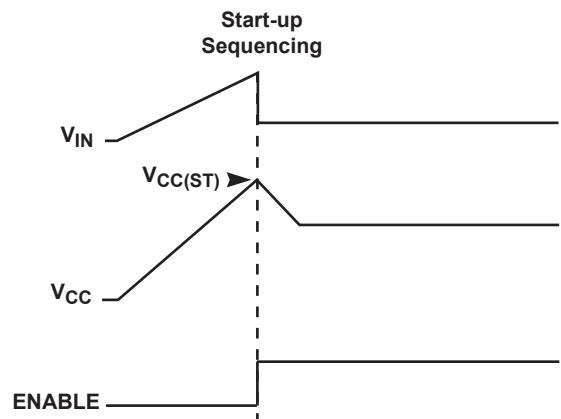

Figure 9.7 : Start-up Sequencing Diagram
Prior to start-up the  $V_{IN}$  pin charges up the  $V_{CC}$  capacitor through a diode between  $V_{IN}$  and  $V_{CC}$ . When  $V_{CC}$  is fully charged to a voltage higher than the start-up threshold  $V_{CC(ST)}$ , the ENABLE signal becomes active and enables the control logic, shown by Figure 9.7. When the control logic is enabled, the controller enters normal operation mode. During the first 3 half AC cycles, OUTPUT(TR) keeps high. After the dimmer type and AC line period are measured, the constant current stage is enabled and the output voltage starts to ramp up. When the output voltage is above the forward voltage of the LED, the controller begins to operate in constant current mode.